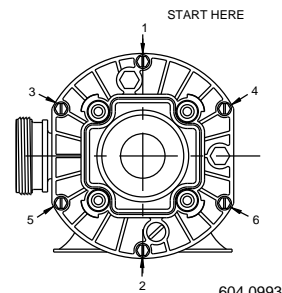

Figure 13 - Torque Sequence
8. Install front plate (Key No. 13). Tighten cap screws in sequence as shown in Figure 13; tighten to 30 inch-lbs. (34.5 cm-kg.) torque.